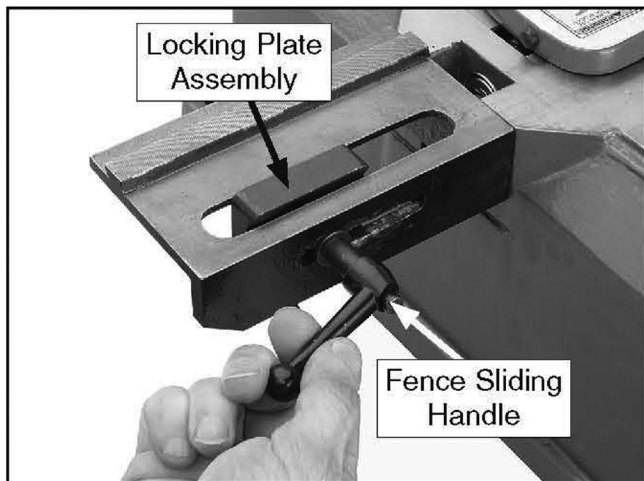

Figure 13. Securing the locking plate assembly with the fence sliding handle.
3. Attach the fence sliding handle to the locking plate assembly. Secure the locking plate in position by tightening the fence sliding handle, as shown in **Figure 13**.